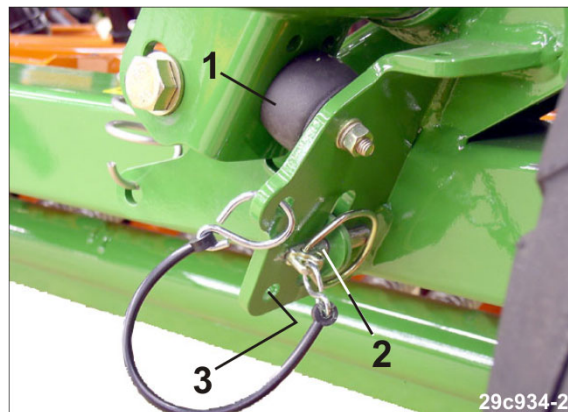

Fig. 168
- 3.1 Press the track marker boom against the rubber block (Fig. 168/1).
- 3.2 Pull out the linch pin (Fig. 168/2) and insert it in the parking position in the hole (Fig. 168/3).